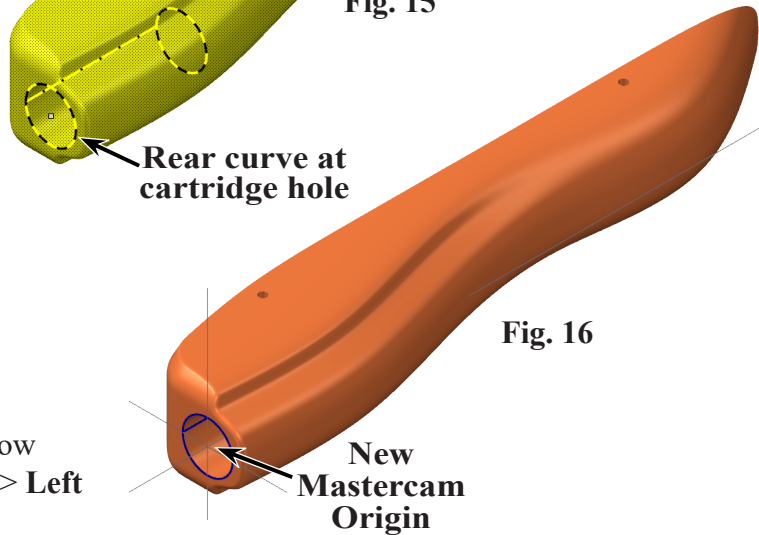

Fig. 16
Step 7. Confirm **center of cartridge hole at rear of car** as new position of Origin, Fig. 16.